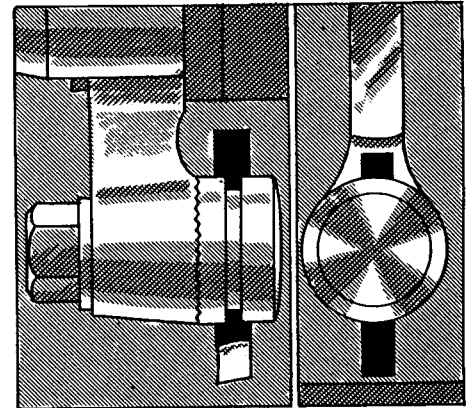
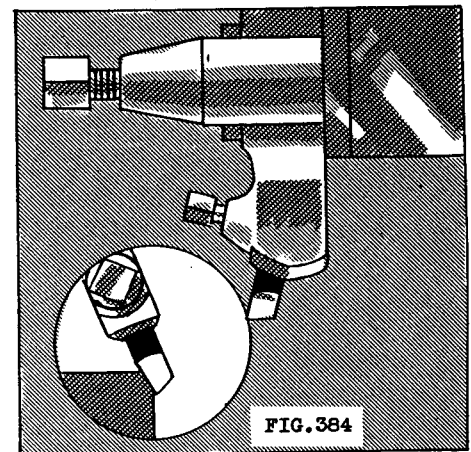

FIG. 383
FIG. 384
1. If a square-nosed tool is used, select a tool holder that can be set with the cutting edge of the tool behind the point of support (Fig. 383). (Refer also to page 154.) If a tool that will cut on the side is employed, an ordinary holder may be used (Fig. 384).
CAUTION When a wide cut is being made and the tool is set ahead of the supporting point, tremendous pressure is built up during the cutting action on account of the downward spring of the tool. When a tool is set with the cutting edge behind the point of support, the tool swings away from the work, the pressure is released, and the cutting action is smoother. When, however, the tool is cutting on a side edge, the tendency of the tool is to spring sideways and, although the tool is set ahead of the point of support, there is not the same tendency to dig in as there would be in the former case (Fig. 383).